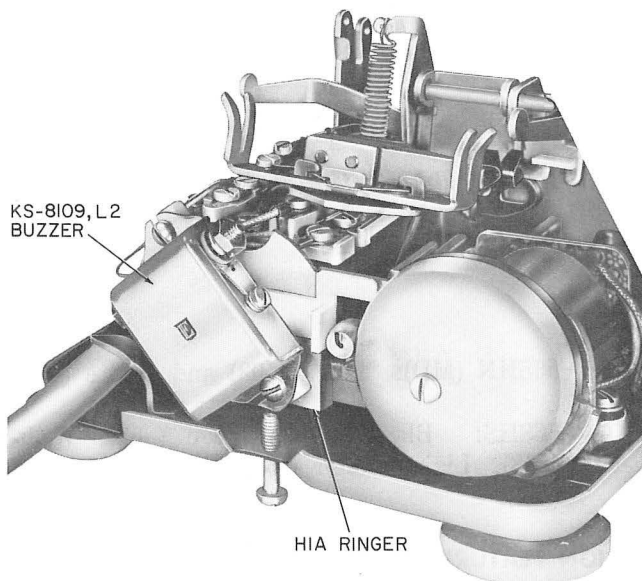

Fig. 2—KS-8109L2 Buzzer Mounted in 568HN (MD) Telephone Set
- (a) **Buzzer:** a KS-8109L2 or equivalent buzzer may be mounted on the bracket provided (Fig. 2 and 3). See appropriate connection section for connection information.